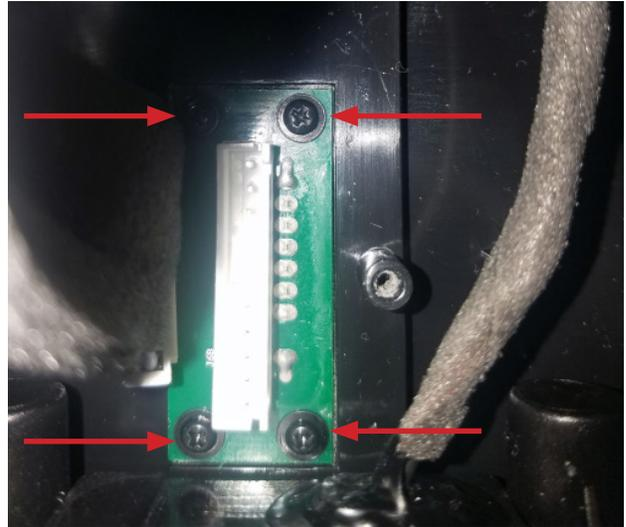

Figure 37
12.3 Remove the four screws indicated in figure 37 securing the battery PCB Assy to the enclosure and lift out the PCB.